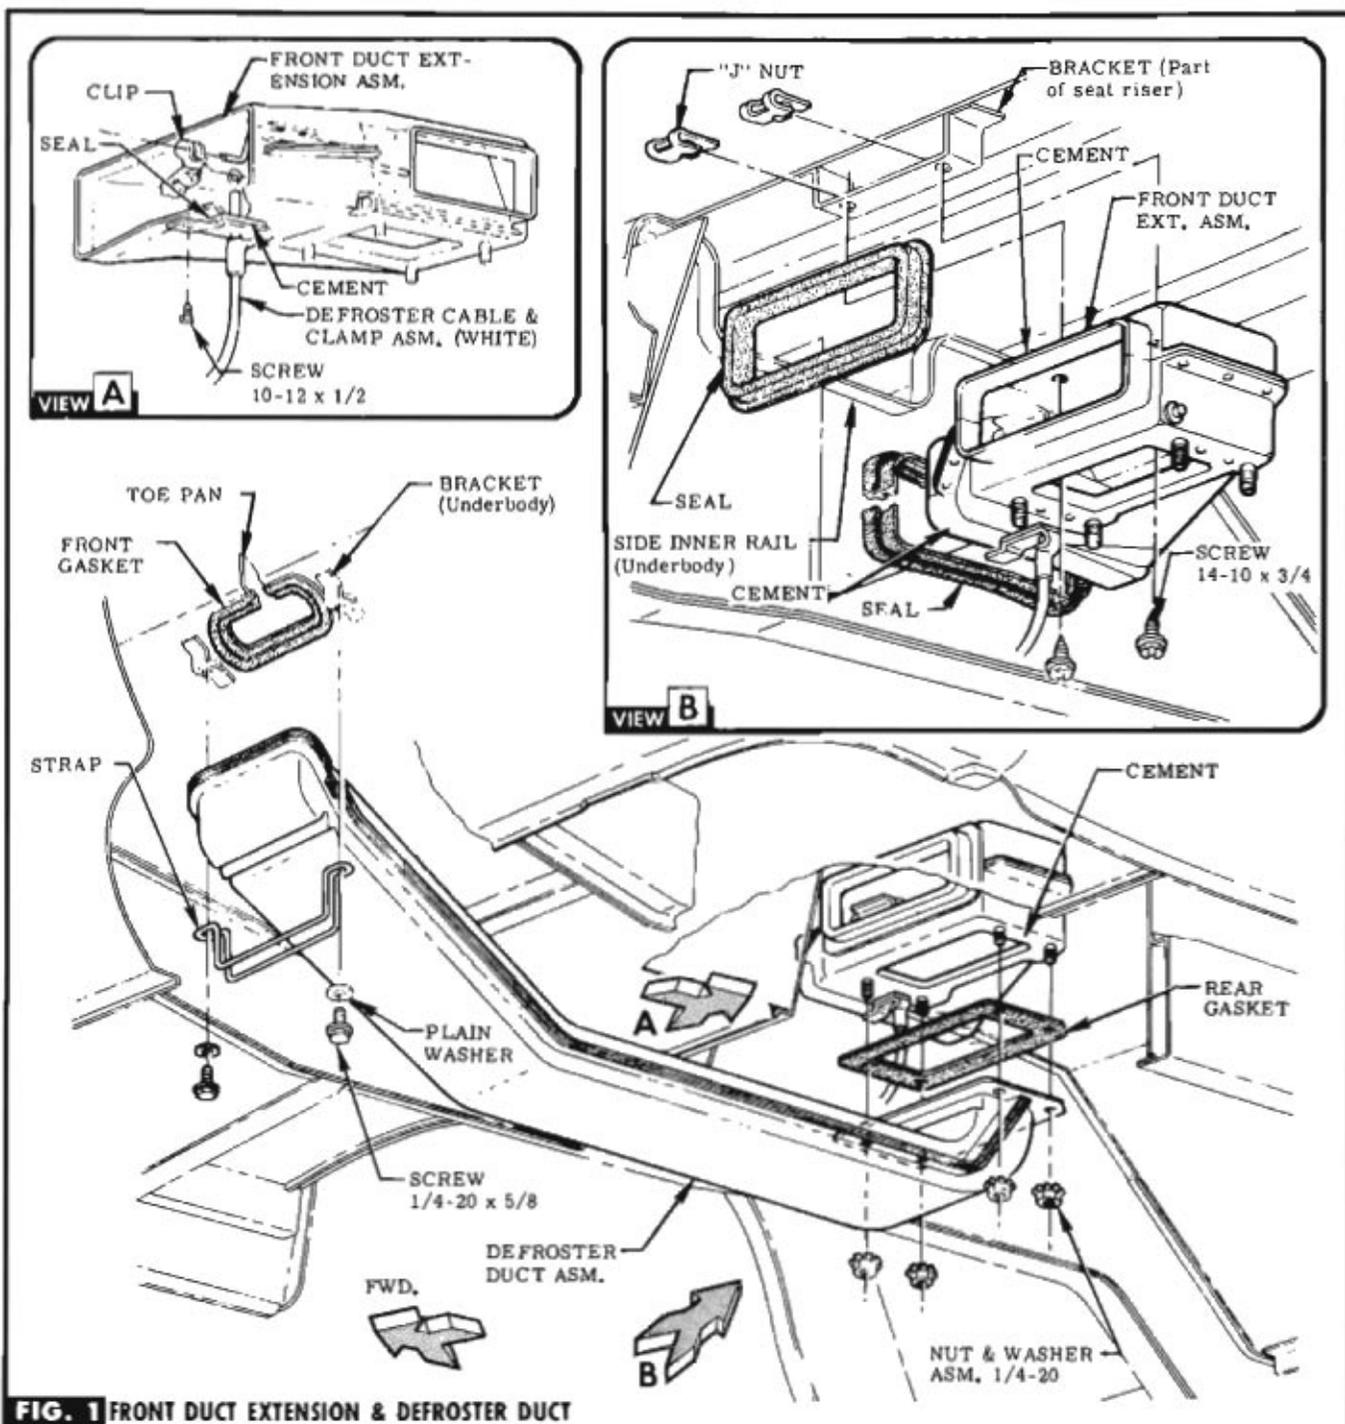

FIG. 1 FRONT DUCT EXTENSION & DEFROSTER DUCT
STEP 7 CEMENT SURFACE OF FRONT DUCT EXTENSION & INSTALL REAR GASKET OVER STUDS, INSTALL FRONT GASKET TO OPENING IN TOE PAN, SEE FIG. 1.
STEP 8 POSITION DEFROSTER DUCT OVER STUDS ON FRONT DUCT EXTENSION & THRU OPENING IN TOE PAN & SECURE WITH STRAP & ATTACHING PARTS (IN BAG B). SEE FIG. 1,
STEP 58 REMOVE EXISTING FLOOR MAT & CEMENT PROVIDED PADS TO UNDERBODY OF FLOOR MAT. CUT OUT PERFORATED AREA. SEE FIG. 1.